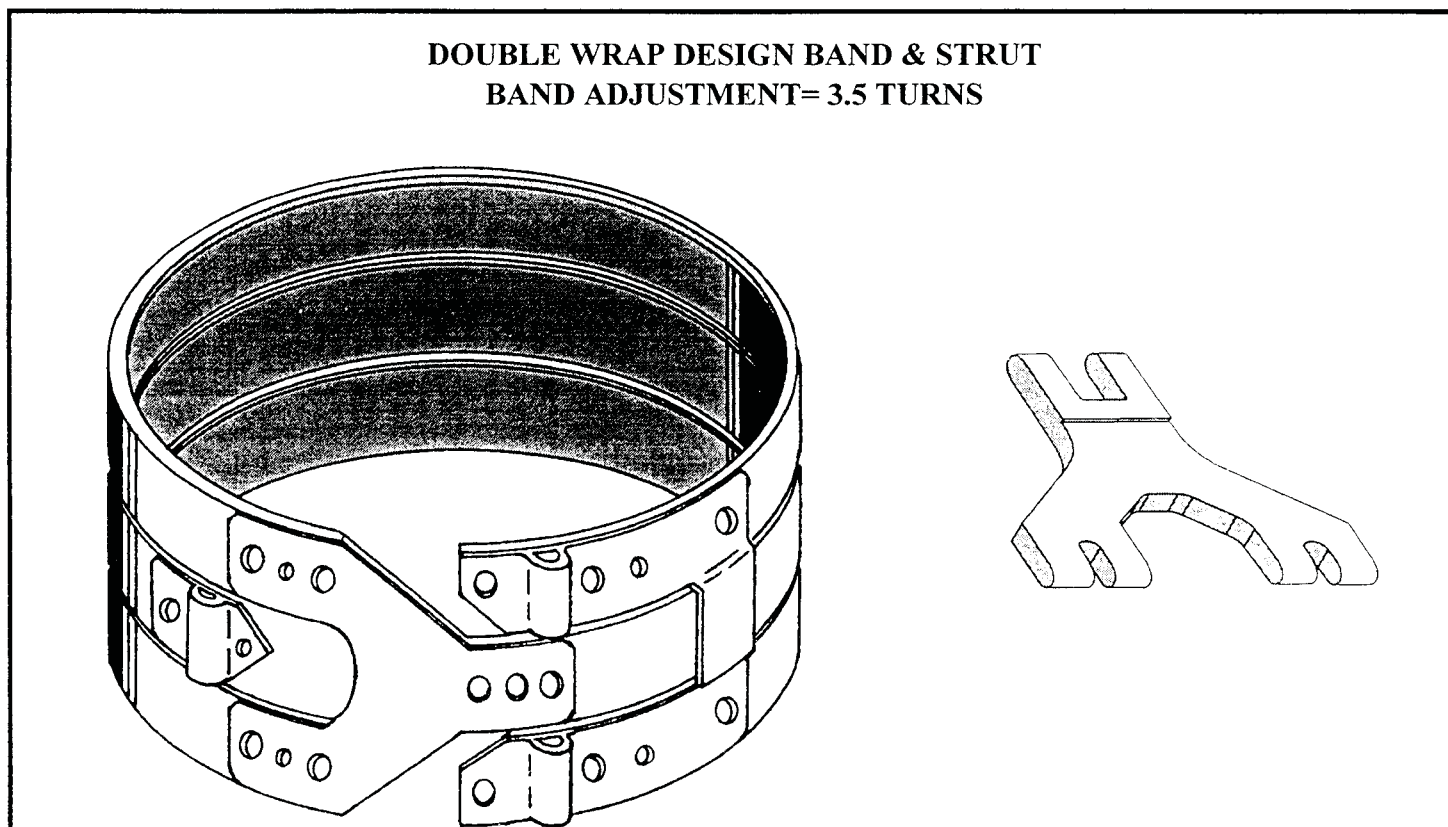

Figure 14
(1) OVERDRIVE BAND - Was changed to a double wrap design band (See Figure 14).
(2) BAND APPLY STRUT - Was redesigned to accommodate the double wrap band (See Figure 14).